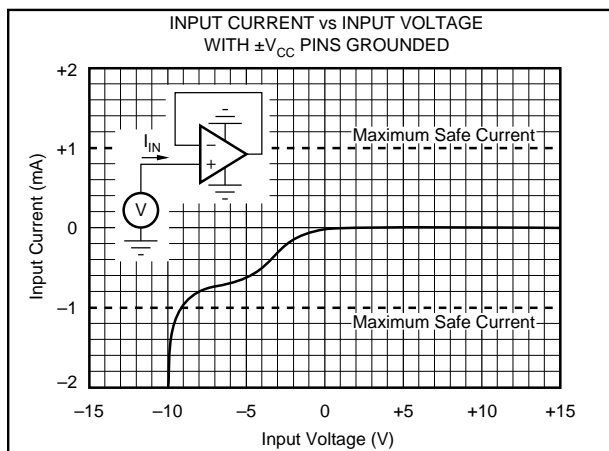

FIGURE 2. Input Current vs Input Voltage with $\pm V_{CC}$ Pins Grounded.
NOTES: (1) Packages must be derated based on $\theta_{JC} = 30^\circ\text{C}/\text{W}$ or $\theta_{JA} = 120^\circ\text{C}/\text{W}$. (2) For supply voltages less than $\pm 18\text{VDC}$ the absolute maximum input voltage is equal to: $18\text{V} > V_{IN} > -V_{CC} - 8\text{V}$. See Figure 2. (3) Short circuit may be to power supply common only. Rating applies to +25°C ambient. Observe dissipation limit and T_J .
Unlike BIFET amplifiers, the *Difet* OPA404 requires input current limiting resistors only if its input voltage is greater than 8 volts more negative than $-V_{CC}$. A 10kΩ series resistor will limit the input current to a safe value with up to $\pm 15V$ input levels even if both supply voltages are lost. (See Figure 2 and Absolute Maximum Ratings).